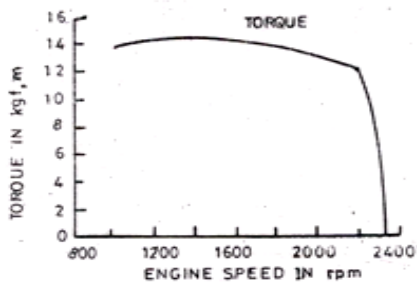

Fig. 11.1
- Power as a function of engine speed (Fig. 11.1)